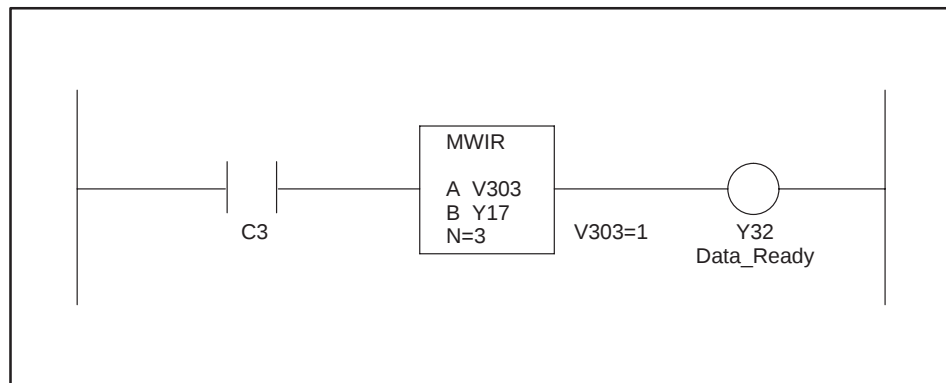

Figure 3-12 Loading the Enable Bits
6. With the Data_RReady bit, data is transferred with Y32 (see Figure 3-12).